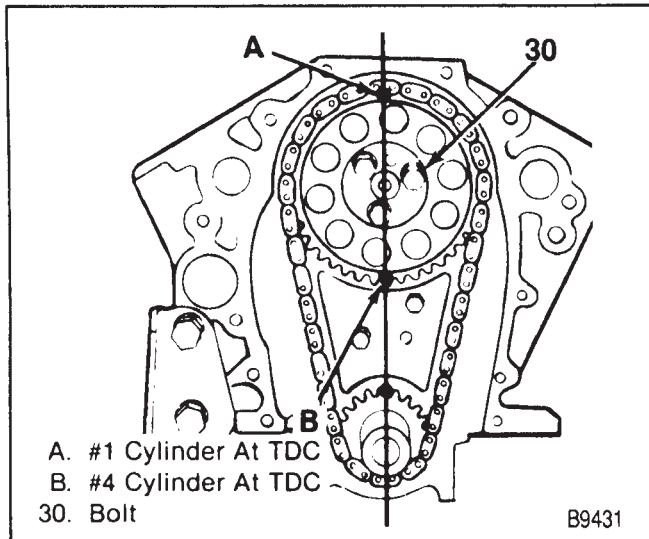

Figure 20—Camshaft Timing
- Place number one piston at top dead center (exhaust stroke) with the marks on the camshaft and crankshaft sprockets aligned (number four firing) (figure 20).
### ↔ Install or Connect (Figure 20)